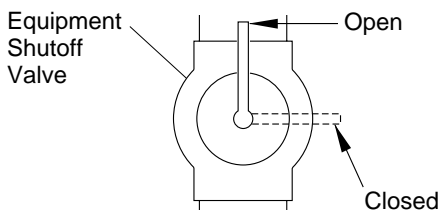

Figure 4 - Equipment Shutoff Valve
1. Open equipment shutoff valve (see Figure 4).